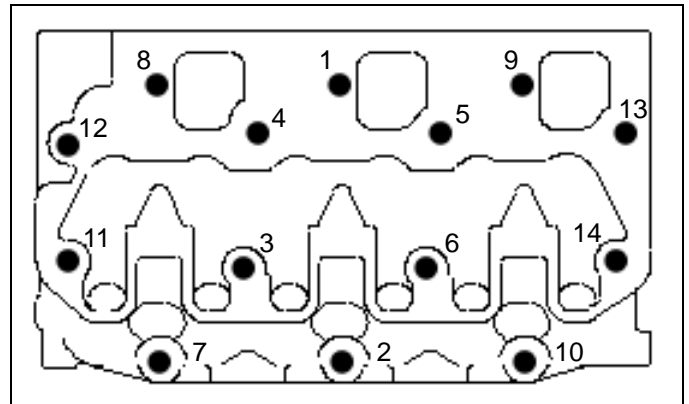

Fig. 4-18
3. Tighten the cylinder head in several steps in the order as shown in Fig. 4-18 and tighten to the specified final torque